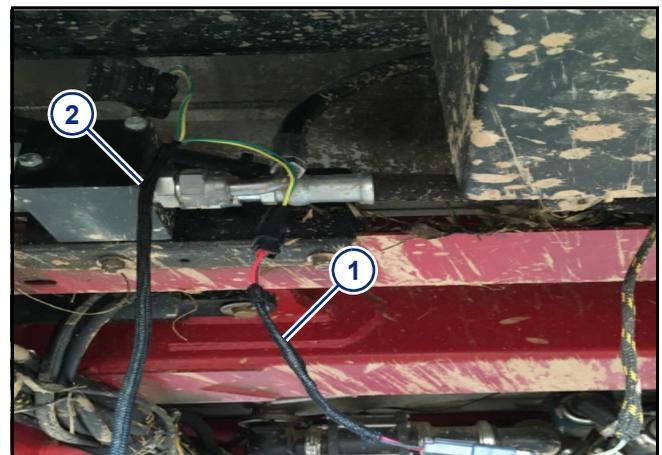

Figure 2
2. **[Figure 2]** - Install the 2-wire resistor adapter (1) supplied in the kit onto the wire removed from PWM cartridge in Step 1.
3. Install the Synchro® adapter cable (2) onto the 2-wire resistor adapter (if applicable) and into the PWM cartridge.